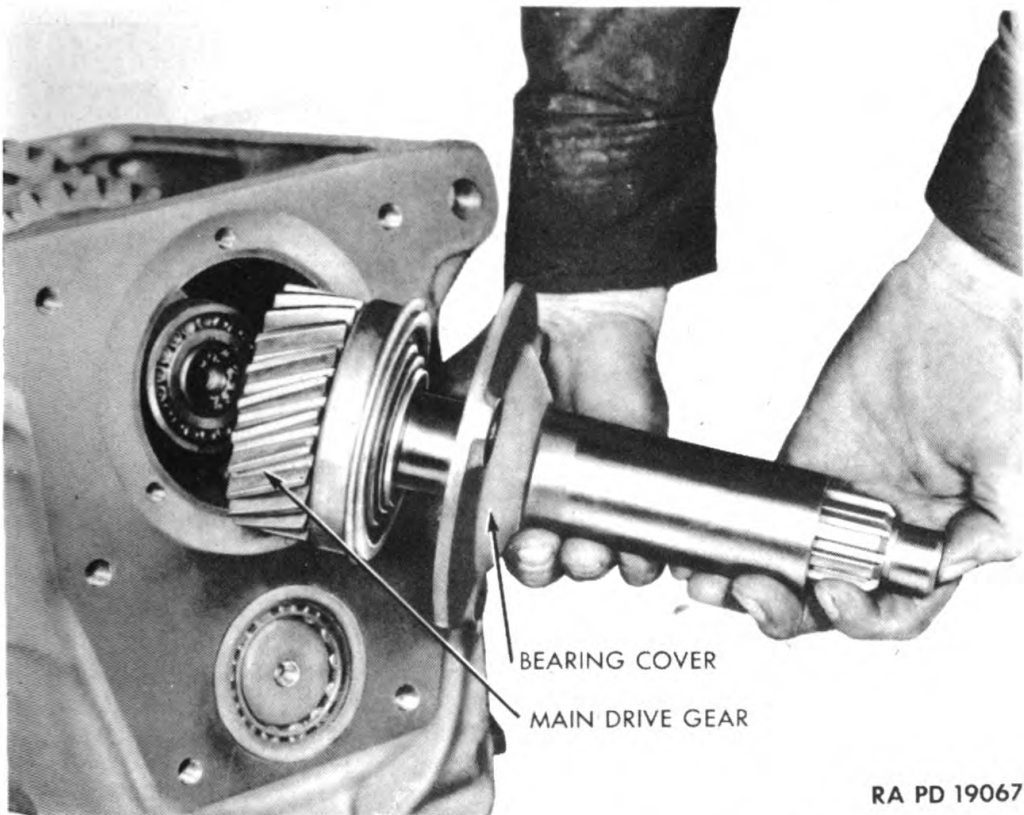

Figure 145 — Removing Main Drive Gear and Bearing Cover
k. **Remove Transmission Mainshaft Front Bearing Cover and Main Drive Gear.** After removing lock wire, remove three cap screws and lock washers from front bearing cover. Tap cover lightly to loosen from recess in case, and lift cover from case or remove with main drive gear. Tap gear lightly with lead hammer to free from case (fig. 145).